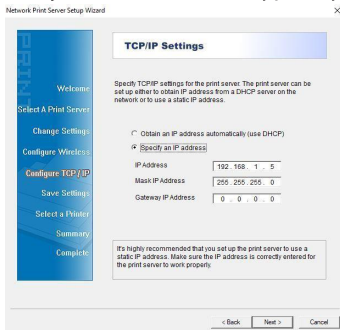

Figure 7
9. At the **TCP/IP Settings** screen, select **Specify an IP address**. This gives the product a static IP. Enter the desired **IP Address**, **Mask IP Address** (subnet mask), and the **Gateway IP Address** information. Select **Next**. (Figure 7)